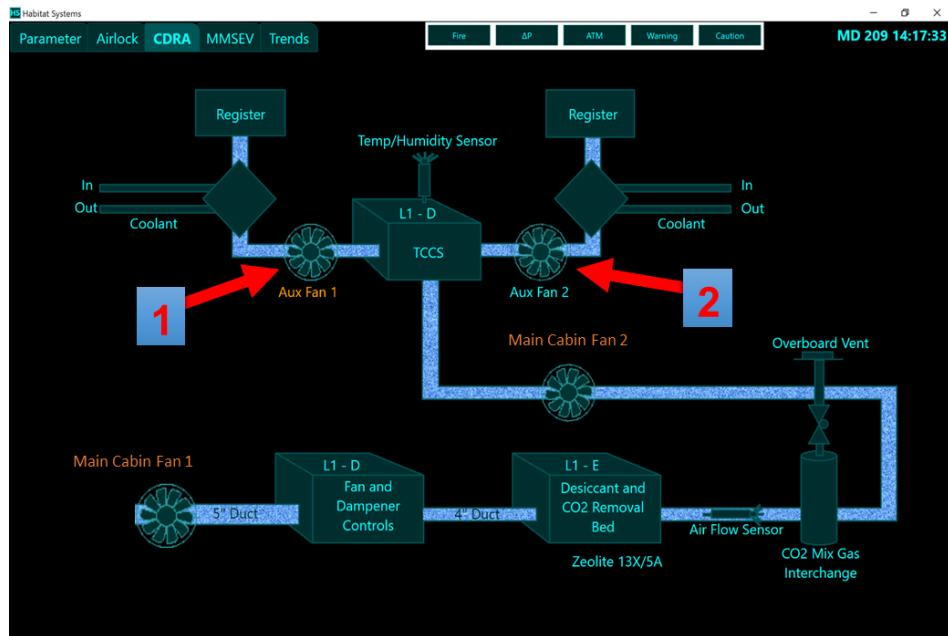

Figure 2: Auxiliary Cabin Fan Power
- 2.1 On HSS CDRA display, touch Aux Cabin Fan 1 icon to deactivate fan (see Figure 2).
- 2.2 On HSS CDRA display, touch Aux Cabin Fan 2 icon to deactivate fan (see Figure 2).
9.2 On HSS CDRA display, touch Aux Cabin Fan 1 icon to activate fan (see Figure 2).
9.3 On HSS CDRA display, touch Aux Cabin Fan 2 icon to activate fan (see Figure 2).